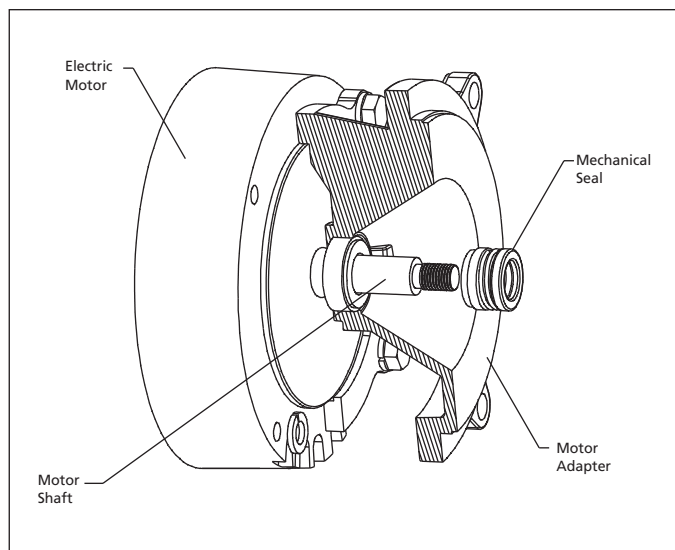

Figure 3 - Seal Removal
4. The seal head (part of Ref. No. 6) can now be pulled from the shaft (See Figure 3).
Seal Assembly Removal and Installation (Figures 3 thru 6)